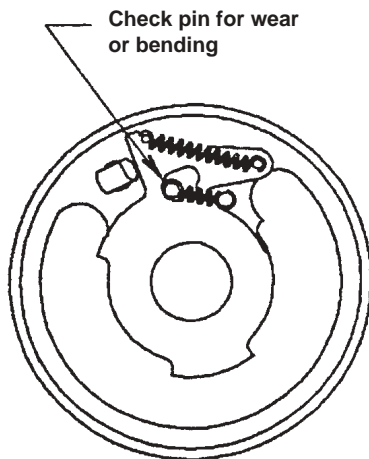

FIG. 7 Shift Key in "Up" Position
3. Shift Key (P309-0044) should be examined for breakage or bending, particularly the camming surfaces. Fig. 7 and Fig. 8 show the correct position of the shift key when the shift key finger (019296) is in “Up” or “Dn” position.